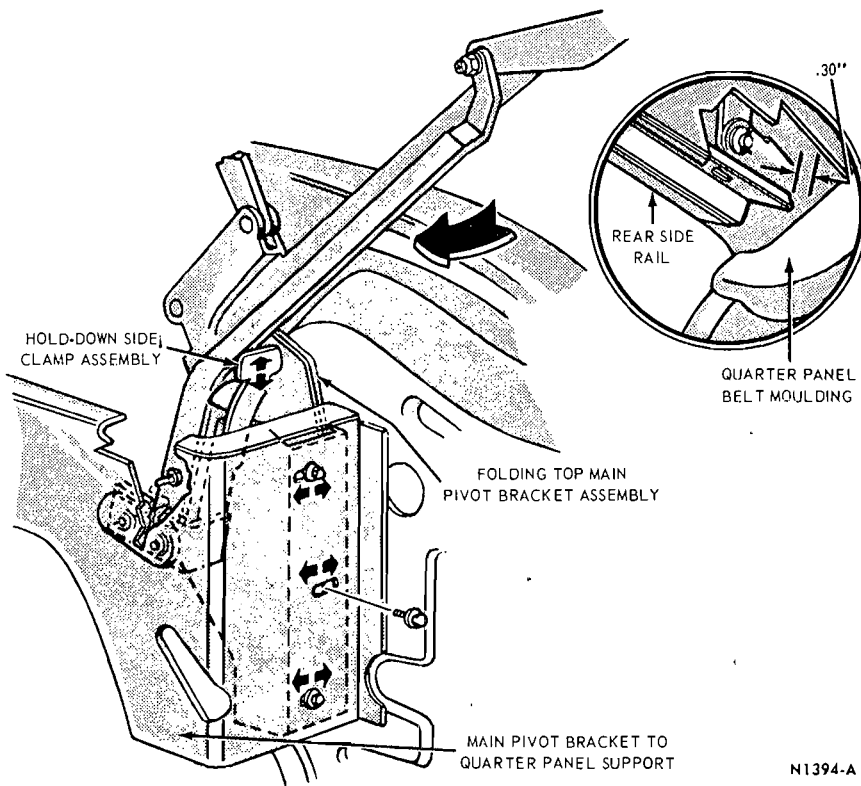

FIG. 3—Main Pivot Bracket Adjustment—Mustang
1. Loosen the screws which retain the main pivot bracket to its support (Fig. 3).
The hold down side clamp assemblies located on each quarter panel support mounting (Fig. 3), are adjustable up and down to retain the top assembly when in its fully stacked position.